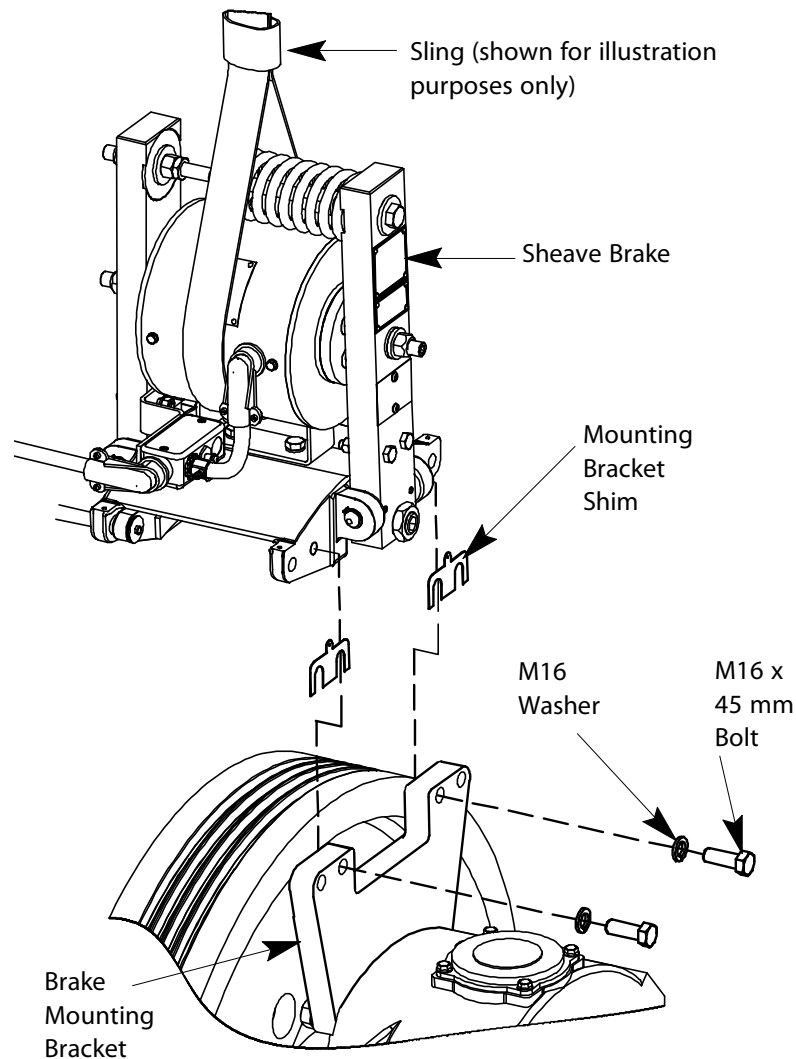

Figure 4 - Hoisting the Sheave Brake
11. Use two (2) M16 x 45 mm long bolts and M16 lockwashers to install the sheave brake to the sheave brake mounting bracket (installed at the factory). See Figure 4.